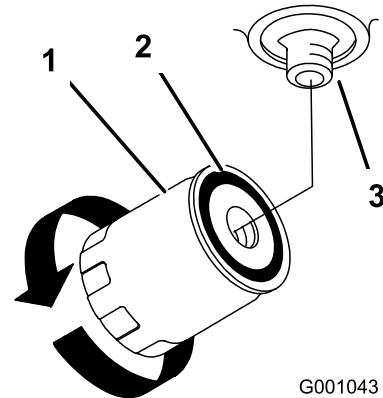

Figure 72
- Apply a thin coat to the rubber gasket on the replacement filter (Figure 72).
- Fill the hydraulic tank with hydraulic fluid until the fluid overflows the filter and then turn the oil filter clockwise until the rubber gasket contacts the filter adapter, then tighten the filter an additional 1/2 turn (Figure 72).